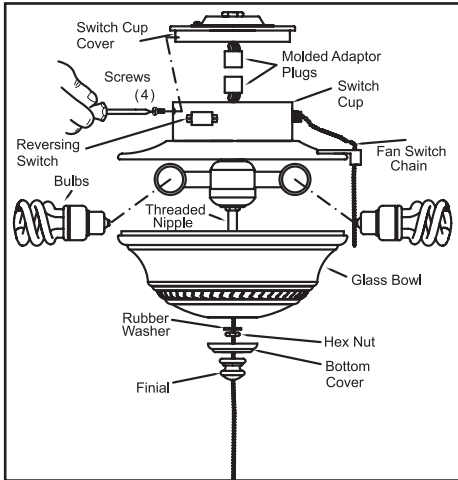

Figure 17
5. Connect the wires exiting the bottom of switch cup cover with the switch cup by connecting the molded adaptor plugs together (Figure 17).
7. Remove the finial, bottom cover, hex nut and rubber washer from the light kit fitter (Figure 17).
The reversing switch installed in the switch cup (Figure 17) controls direction: forward (switch left) or reverse (switch right).